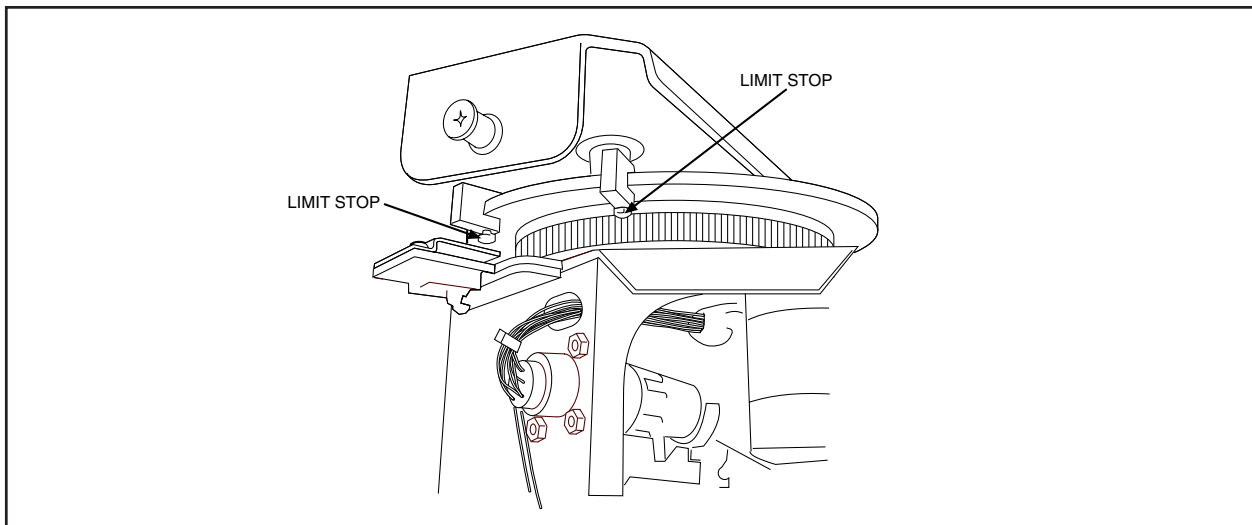

Figure 4. Pan Limit Stops (Only Two Shown)
- c. Position the limit stop and tighten it in place. Refer to Figure 4 for the location of the limit stops. Disconnect the drive from the back box, if necessary, to make the adjustment.